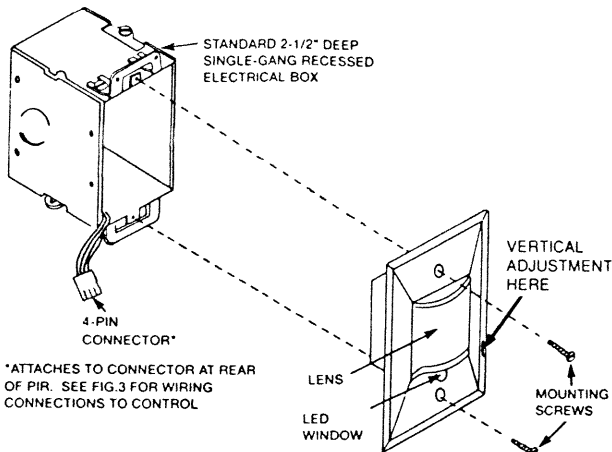

Figure 4. Installation in Recessed Electrical Box
4. Mount the PIR to the electrical box using the two screws supplied, as shown in Figure 4.
2. Using the blade of a screwdriver, slide the tab in the notch on the right-hand side of the PIR's mounting plate upward (to lower the pattern) or downward (to raise the pattern). See Figure 4.